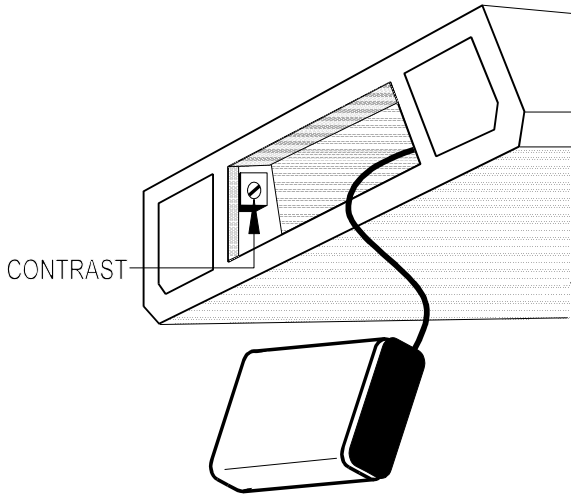

Figure 11 - Battery installation and LCD contrast adjustment.
2. Locate the battery compartment on the left panel of the instrument (see **Figure 11**). Open the battery door by pressing up on the door catch and simultaneously pulling the door outwards.
5. The LCD contrast adjustment is accessed via a hole in the battery compartment (see **Figure 11**). Use a small screwdriver or electronic adjustment tool to adjust the LCD to the desired level of contrast, if necessary.